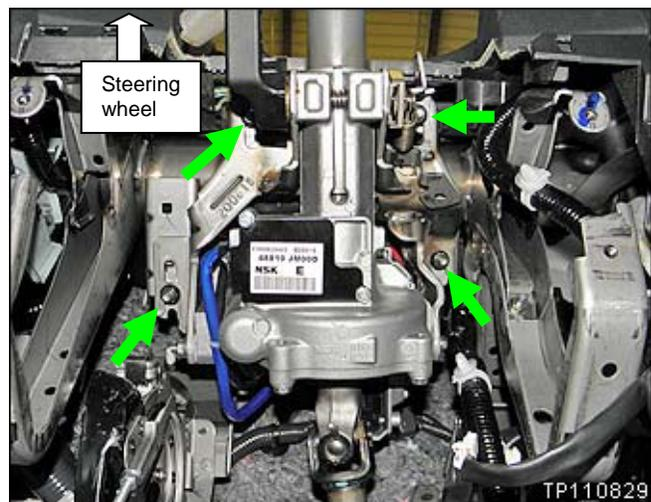

Figure 25
28. Remove the 4 steering column assembly mounting bolts shown in Figure 25.